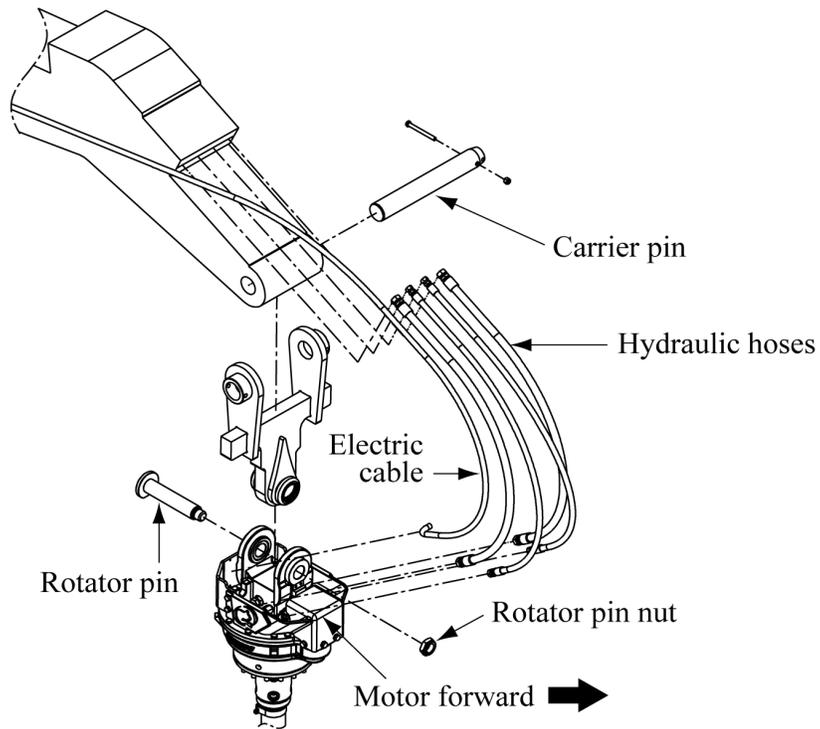

Figure 4 - Bolting the yoke to the carrier
1. Bolt the yoke (link) to the carrier with the carrier pin and nut (refer to *Figure 4*).
2. With the hydraulic motor on the rotator facing forward and away from the carrier, bolt the rotator to the yoke with the rotator pin and nut (see *Figure 4*).